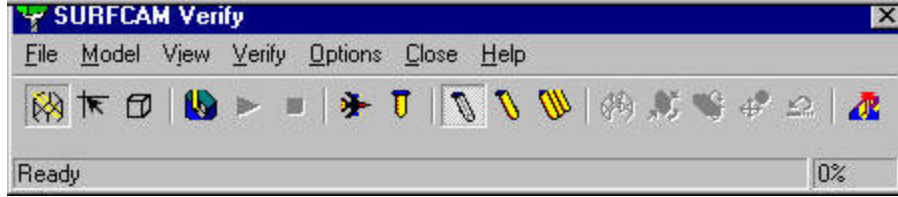

Figure 6: Verify Menu
- 3.) Click on the  (verify button) in the top menu. Another menu will appear at the upper right of the screen. See figure 6 for a visual of this menu.